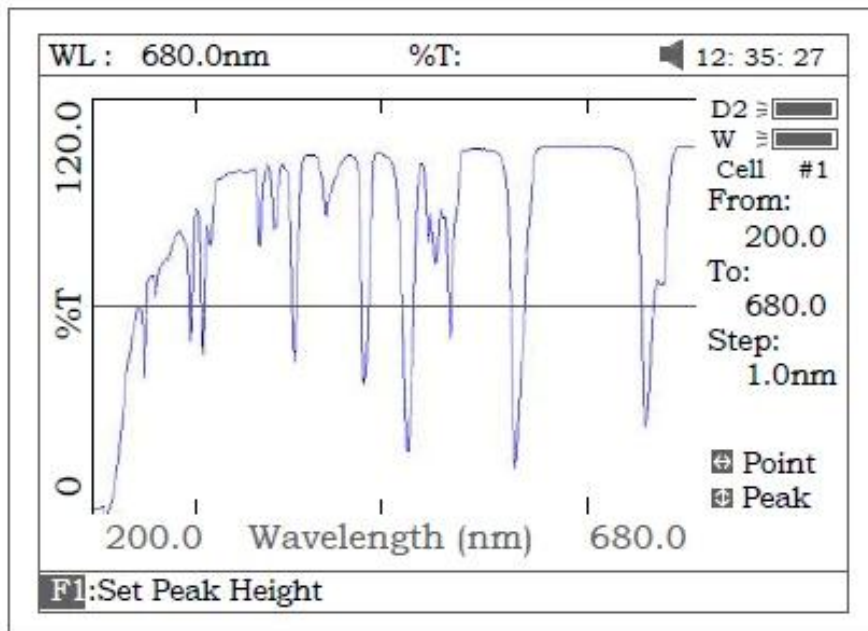

Figure 49
6. Press **【F3】** to search the Abs/%T value of the scan. There are two ways for you to search (Fig 49).